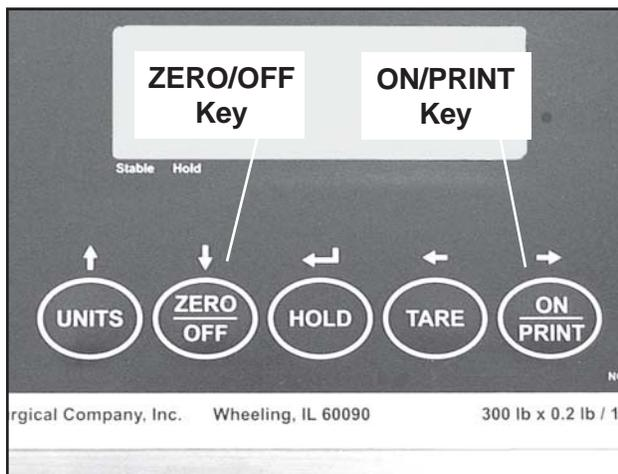

Figure 18. Control Panel ON & OFF Keys
3. Turn the scale **ON** by pushing the **ON/PRINT** key (Figure 18). The display will illuminate and count down to **0.0**.
To turn the scale **ON**, press the **ON/PRINT** key (Figure 18). The display will count down and then display **0.0**. When **0.0** is displayed, the scale is ready for use. If, after the countdown, the scale displays a figure other than **0.0**, press the **ZERO/OFF** key once and the scale will return to **0.0**. **Note:** A few seconds delay between turning the unit on and the display appearing on the screen is normal. This especially true if there is a weight on the scale platform.
To turn the scale **OFF**, press and hold the **ZERO/OFF** key for two to three seconds (Figure 18). **Note:** After five minutes of inactivity, the scale will turn off automatically, however, you can reset this interval if desired (refer to *Adjusting the Shut-down Interval* on Page 27).